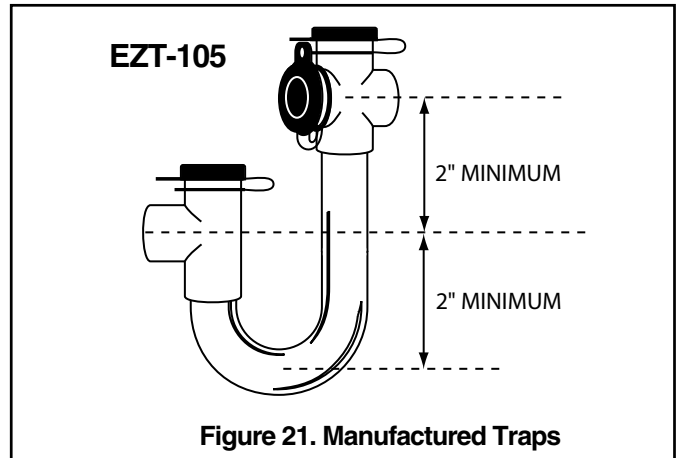

Figure 21. Manufactured Traps
1. The primary drain line must be trapped with a minimum of 2" water seal as shown in Figures 21 & 22. **Do not use preformed 3/4" PVC running traps.**
The use of field fabricated or manufactured traps as shown in Figures 21 & 22 is acceptable. The manufactured trap shown in Figure 21 allows for a float switch option to be added. Refer to the manufacturer's data and instructions for details.
3. It is recommended that a clean-out tee or cross be installed in the primary drain line for future maintenance (See Figure 21 & 22).